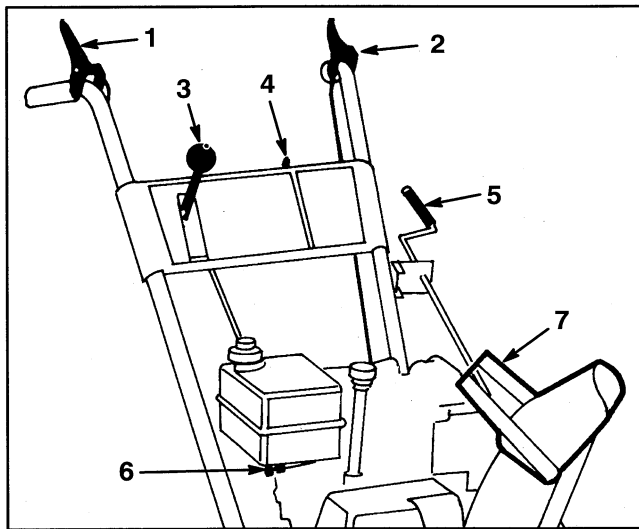
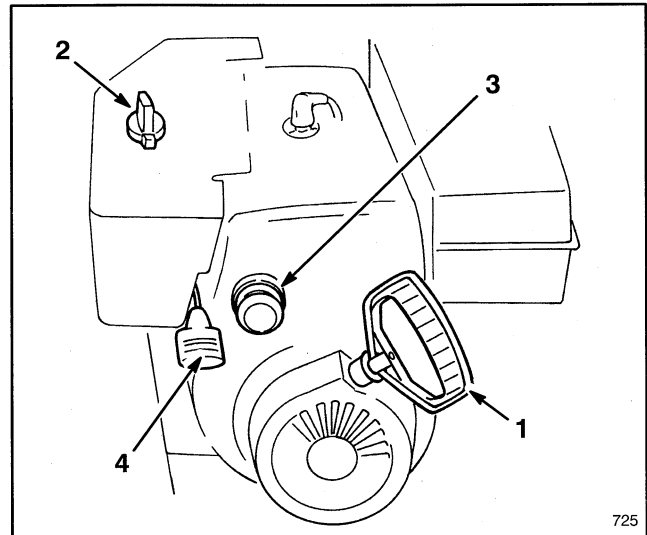
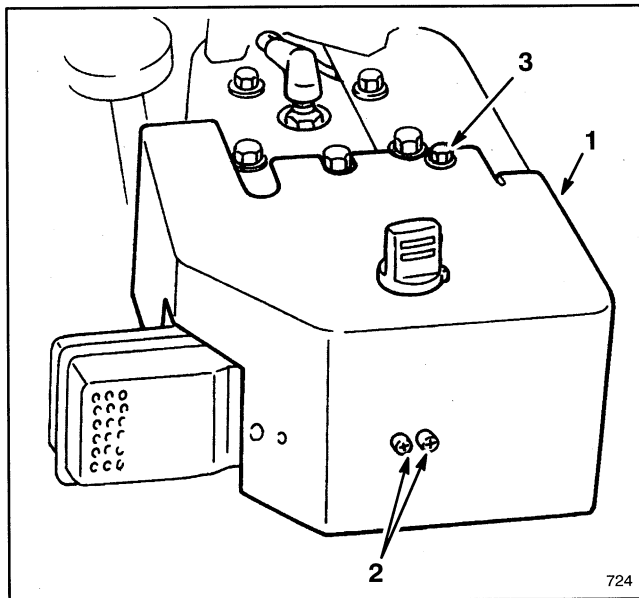

Figure 14
Figure 15
Figure 16
**Auger Drive Control** (Fig. 14)—Control has two positions: ENGAGE and DISENGAGE. To engage both auger and impeller, compress lever against right handgrip. To disengage, release lever.
**Traction Control** (Fig. 14)—To engage traction (wheel drive), lever must be compressed against left handgrip. To stop traction, release lever.
**Speed Selector** (Fig. 14)—The control has four positions: reverse, 1, 2 and 3. To change speeds, move gear shift to position desired. Lever will lock in notch at each speed selection. Use positions 1, 2 or 3 depending on snow conditions.
**Ignition Switch** (Fig. 14)—Switch has two positions: ON and OFF. Rotate key to ON position before starting engine with the recoil starter. To stop engine, rotate key to OFF.
**Throttle** (Fig. 15)—Moving the throttle upward increases engine speed.
**Choke** (Fig. 15)—Rotate choke to FULL choke position to start a cold engine. As engine warms up, move choke gradually to OFF.
**Primer** (Fig. 15)—Press primer to pump a small amount of gasoline into engine for improved cold weather starting.
**Fuel Shut-Off Valve** (Fig. 14)—Valve is located under fuel tank. Close valve by rotating it to the right to stop fuel flow from fuel tank. Open valve by rotating it to the left to allow fuel to flow to the carburetor. Close valve when snowthrower is not in use.
**Discharge Chute Control** (Fig. 14)—Rotate discharge chute control clockwise to move discharge chute to the left and counterclockwise to move chute to the right.
**Recoil Starter** (Fig. 15)—Recoil starter is on back side of engine. Pull recoil starter to start engine.
**Chute Deflector Handle** (Fig. 14)—Deflector handle is on top of discharge chute, and it is used to control height of the snow stream.
**Note:** If engine is operated when temperature is +40°F (4°C) or higher, remove carburetor heater box (Fig. 16). However, the heater box must be reinstalled when temperature falls below +40°F (4°C). To remove heater box:
- A. Remove (2) Phillips screws and (1) hex head screw securing heater box in place (Fig. 16). Pull choke knob off choke rod (Fig. 15).
1. Move throttle (Fig. 15) to FAST.
2. Open fuel shut-off valve below fuel tank (Fig. 14) by rotating valve to the left.
3. Rotate choke (Fig. 15) to full choke position.
4. Rotate ignition key (Fig. 14) to ON.
6. Grasp recoil starter handle (Fig. 15) and pull it out slowly until positive engagement results; then
7. After engine starts, immediately rotate choke (Fig. 15) to 3/4 position. As engine warms up, rotate choke to 1/2 position; then to OFF position. If engine falters, return choke to 1/2 position. When engine warms sufficiently, rotate choke to OFF position.
1. Release traction and auger drive controls (Fig. 14).
2. Move throttle (Fig. 15) to slow and rotate ignition key (Fig. 14) to OFF.